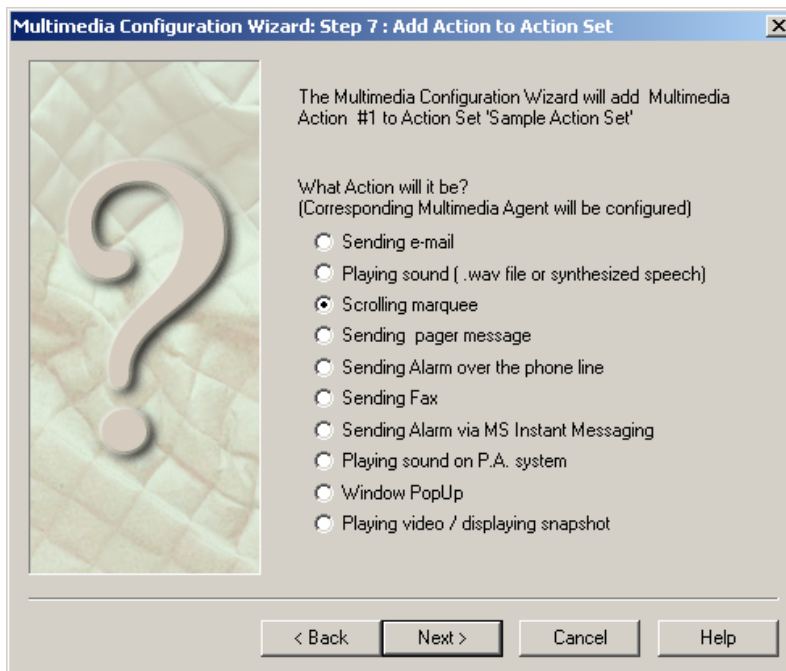

Figure 3.8. Step 7: Adding a Multimedia Agent to the Alarm Action Set
- In Step 7, you have the option of selecting a multimedia agent to respond to your action set, as shown in **Figure 3.8**. The corresponding multimedia agent will be configured for the action that you selected.
Note: The **Sending Alarm Over the Phone Line** option in Figure 3.8 applies only to the Call-out Agent. The Configuration Wizard does not support the Call-in Agent.